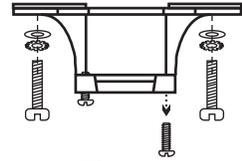

Fig. 7
1. Take the hanging bracket and secure it to the outlet box (marked Acceptable For Fan Support) using the mounting screws provided with the outlet box, Fig 7 below. Tighten them evenly.
2. Remove one canopy screw (also Fig 7) and loosen the other. Make sure all of the wires are accessible and are not being pinched. Also, make sure the bracket doesn't wobble.